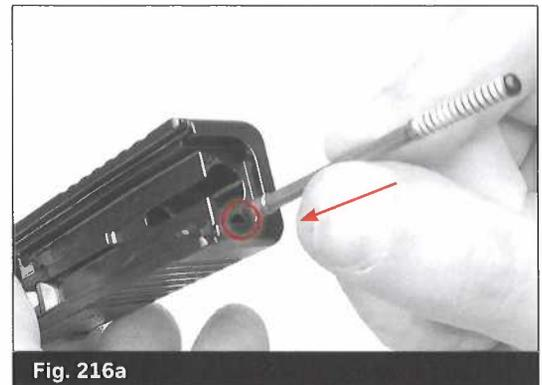

Fig. 216a
- Insert the extractor depressor plunger (EDP) assembly into the slide. The metal rod end always goes in first to mate with the metal extractor. This leaves the polymer spring loaded bearing to mate with the polymer slide cover plate. (Fig. 216a)